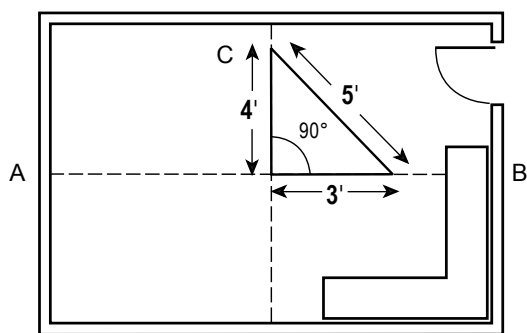

Fig. 6 - Square layout.
- Place a mark in the center of the floor at each end of the room. (AB) Then snap a chalk line between the marks.
- Find the center of the line and snap a second chalk line at a right angle (CD); use the 3', 4', 5' method to form a right angle (Fig. 6).